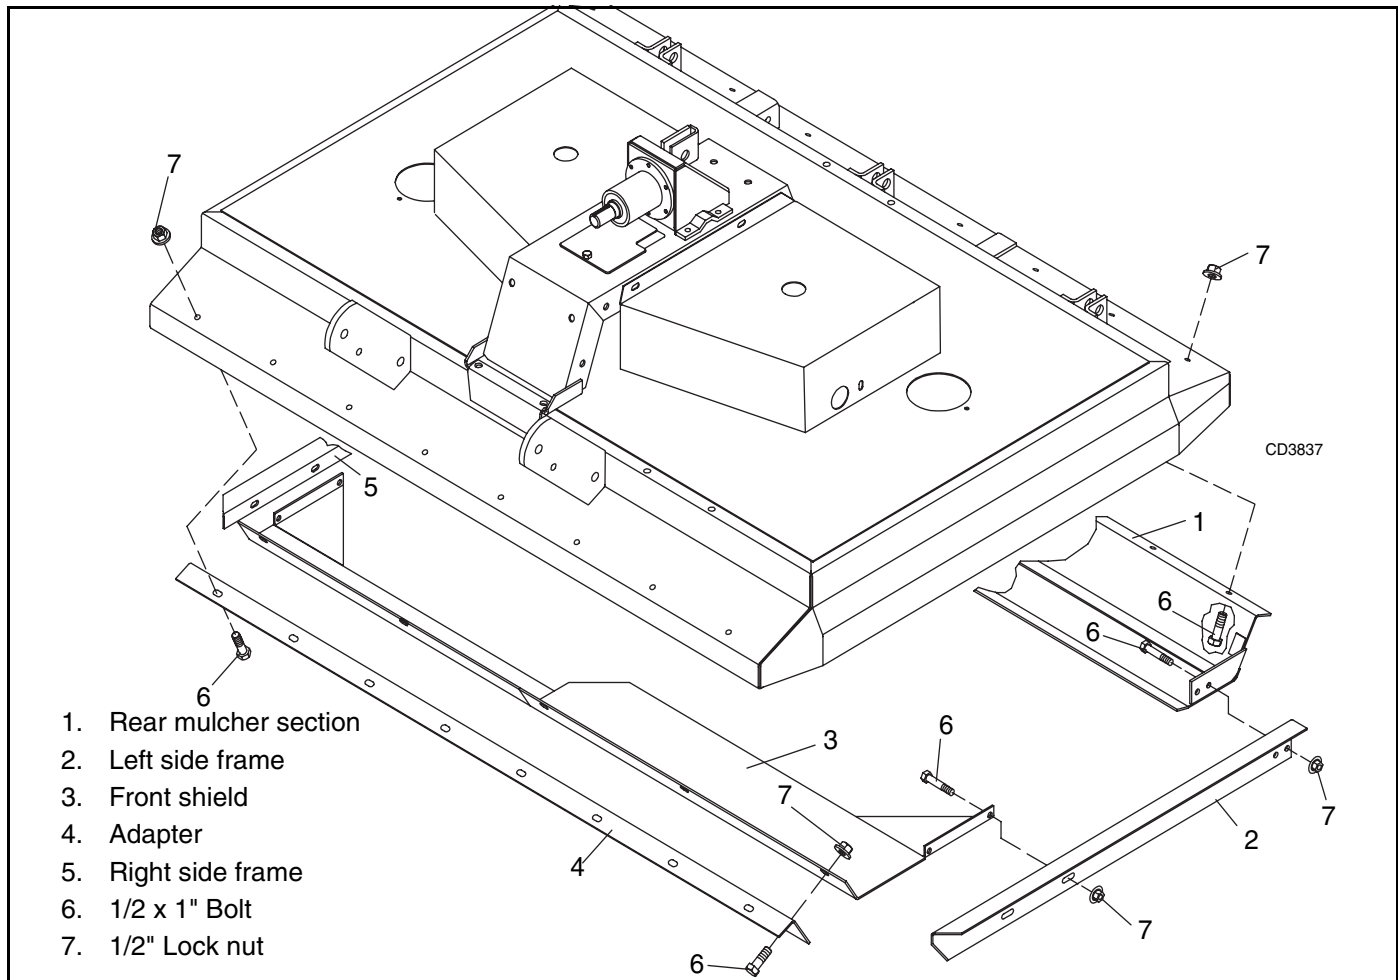

Figure 27. Optional Leaf Mulcher Installation
Attach right and left side frames (2 & 5) to the front and rear mulcher sections with bolts (6) and flange lock nuts (7). The slots are to the front and the U-section points outward as shown in Figure 27.